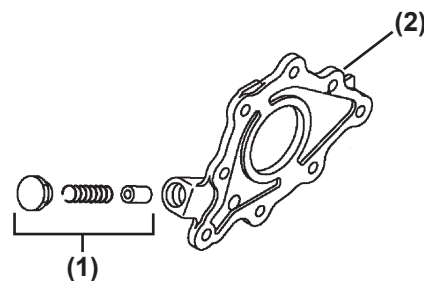

Figure 4-5-6
6. Remove the oil pressure regulator valve (**Figure 4-5-6, (1)**) from the oil pump cover (**Figure 4-5-6, (2)**).